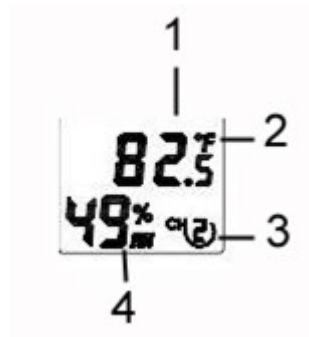

Figure 25
6. Verify the correct channel number (CH) and temperature units of measure (°F vs. °C) are on the display, as shown in Figure 25.